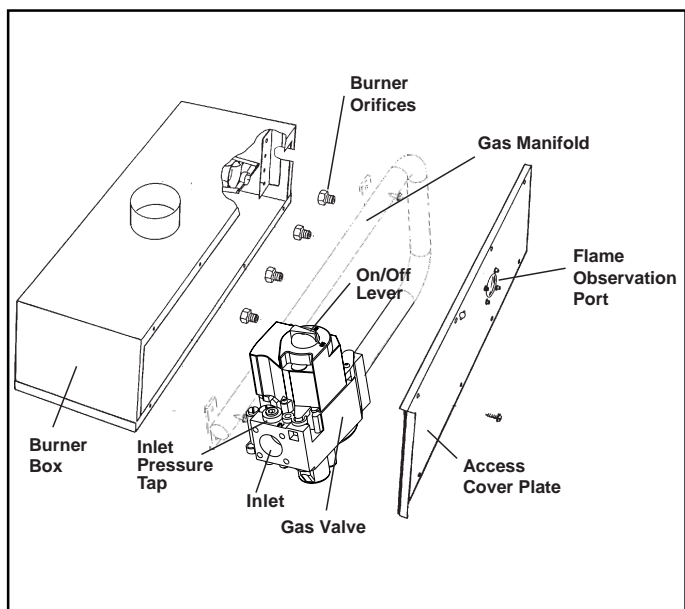

Figure 2. Typical Installation For Sealed Burner Box With Access Cover Plate
1. Reinstall the gas manifold assembly to the burner box with the four (4) fasteners, which were removed earlier.
5. Reconnect the rubber pressure tubes to the gas valve and the burner box. Reinstall the burner access cover plate. Note that this step is only for the sealed burner box, which is shown in Figure 2.